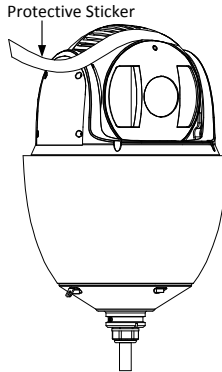

Figure 2-26 Remove Protective Sticker
1. Remove the protective sticker as shown in Figure 2-26.